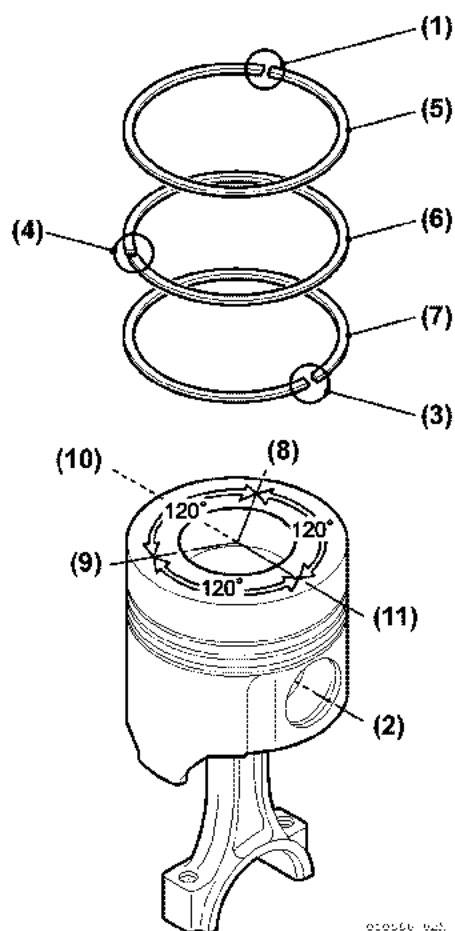
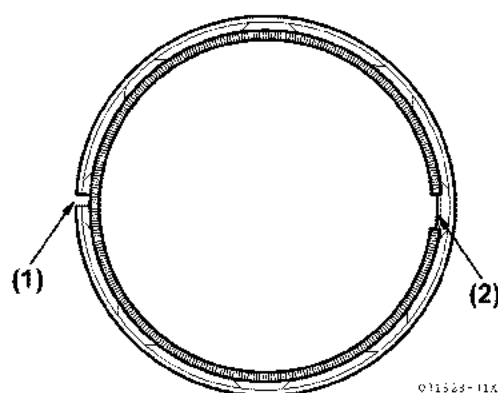

Figure 5-138
Figure 5-139
- The piston ring joints must be staggered at 120° to each other. Do not position the top ring joint in line with the piston pin (**Figure 5-137**) and (**Figure 5-138**). The coil expander joint must be opposite the oil ring joint (**Figure 5-139**).